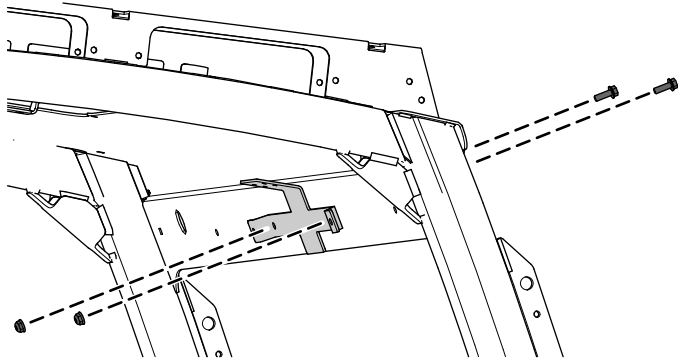

Figure 5
2. Secure the mirror mount to the canopy using 2 flange-head bolts (1/4 x 3/4 inch) and 2 locknuts (1/4 inch) as shown in Figure 5.